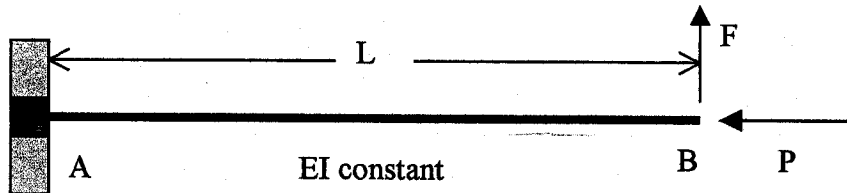

Fig. Q6
6. Determine the deflection curve and critical buckling load for the long column shown in Fig. Q6. The column is fixed at A and free at B. The column is subject to an axial load P and a lateral load F at the point B. EI is constant throughout the length of the column.